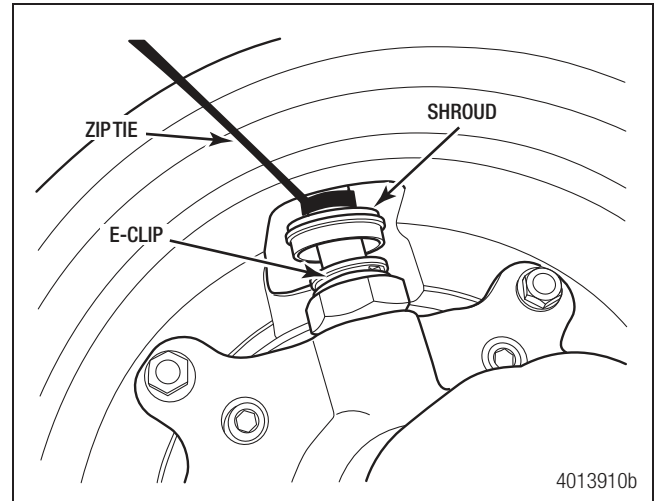
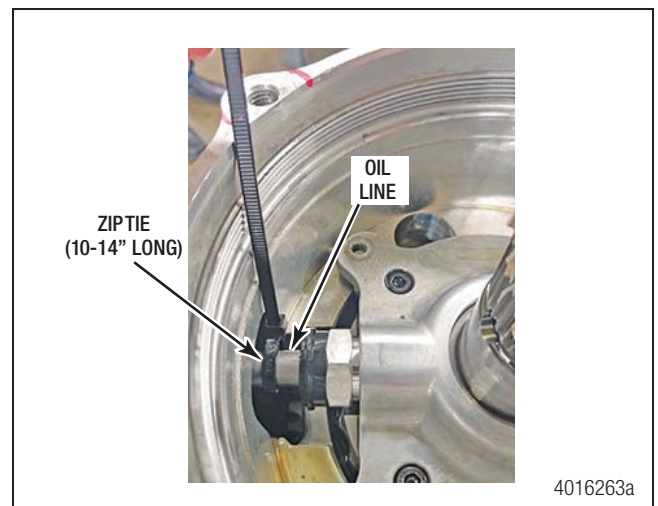

Figure 7.33
Figure 7.34
15. Install the oil line into the pump fitting. The line must be installed into the fitting far enough to align the E-clip grooves. Use pliers or another suitable tool to pull the line into the fitting until correctly aligned. Once the line is in position, install the E-clip to secure the line to the fitting. Slide the shroud back over the fitting. Cut and remove the zip tie from the oil line. Figure 7.33 and Figure 7.34.